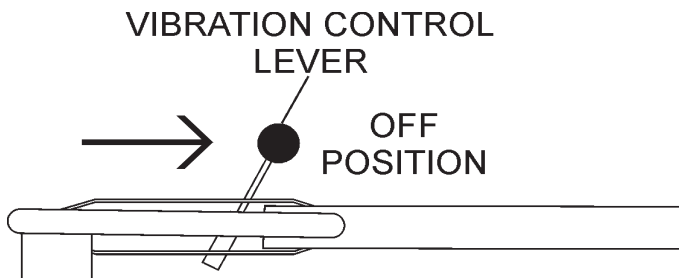

Figure 31. Vibratory Control Lever (OFF)
1. Place the vibration control lever (Figure 31) on the roller to the **OFF** position (vibration stops).